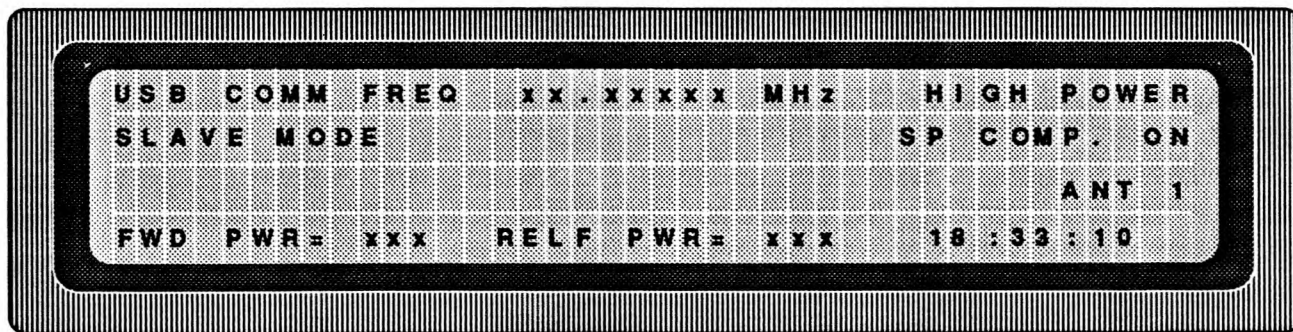

Figure 3-24. Transceiver Mode
d. After the transreceiver has been configured as above, and connected to an antenna, the transmitter can be keyed ON in any of three ways: the front panel XMIT KEY toggle switch, microphone/handset push-to-talk switch, or rear panel remote input control on connector TB-1. See paragraph 3-9.6. Whenever the transmitter is keyed ON, the receiver is muted, and no receiver audio will appear in the handset or RCS-5 speaker. Overall transmitter status (including the settings made above) will appear on the TCS-5 display as in Figure 3-24. To clear TCS-5 SLAVE mode, rotate MODE switch to RUN.
d. After the transceiver has been configured as above, and connected to an antenna, the transmitter can be keyed ON in any of three ways: the front panel XMIT KEY toggle switch, microphone/handset push-to-talk switch, or rear panel remote input control on connector TB-1. See paragraph 3-9.6. Whenever the transmitter is keyed ON, the receiver is muted, and no receiver audio will appear in the handset or RCS-5 speaker. Overall transmitter status (including the settings made above) will appear on the TCS-5 display as in Figure 3-24.